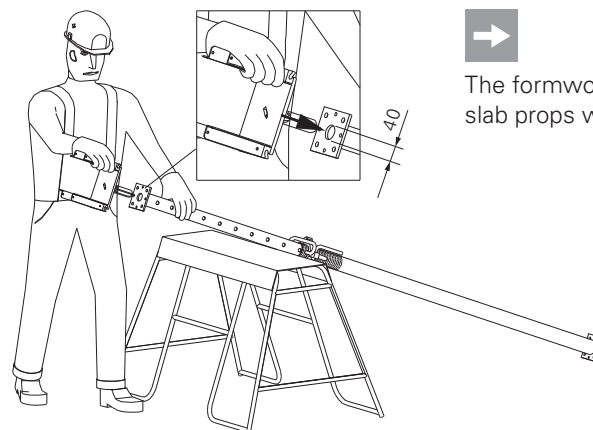

Fig. A2.03
3. Position prop. (Fig. A2.03)